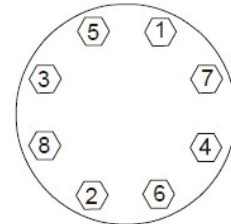

图2 Figure2
- 依照图2的顺序依次锁紧螺栓；
Tighten the flange bolts according to the sequence in Figure 2.